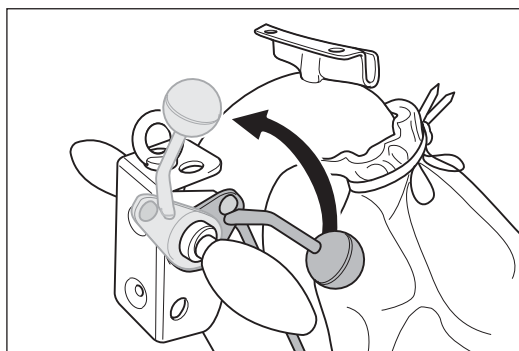

Fig. 19 Lift the sanding drum off the floor by turning the lowering lever at the handle upwards.
- **Always** lift the sanding drum off the floor before switch on the machine (fig. 19)!
- 1 Lift the sanding drum off the floor by turning the lowering lever at the handle upwards (fig. 19).
- 1** Lift the sanding drum off the floor by turning the lowering lever at the handle upwards (fig. 19)!